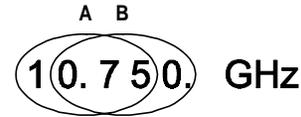

Figure 10. Local Oscillator frequency low and high-resolution display
Local Oscillator frequency: (see Figure 10) For example; if a current Local Oscillator frequency is 10.750 GHz, changing to Alt-2 Mode (ALT LED is on) and then pressing 2 displays the four most significant digits on the front panel (i.e., 10.75). At low resolution (A), pressing the up \uparrow or down \downarrow arrow button advances the frequency up or down in 10 MHz steps (i.e., 10.76, 10.77, and so on). Pressing and holding down the up \uparrow or down \downarrow arrow button will increase the step size further.
Crossover frequency: Because the Crossover and LO frequency ranges are similar, refer to the above example for changing the Crossover frequency using the high and low resolution front panel display (see Figure 10).